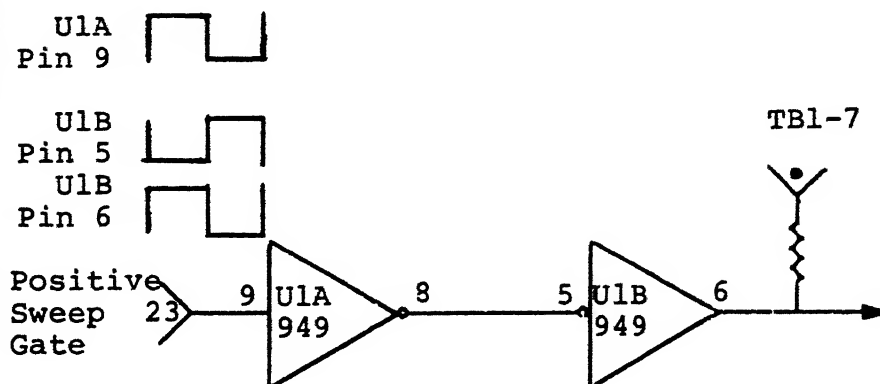

Figure 1 - DUAL INVERTER, U1.
1. The positive sweep gate, from the Sweep Generator Card, is applied to the Range Marks Generator Card to control the generation of the range marks. The leading edge of the positive sweep gate represents time zero ( $T_0$ ) or the start of the sweep sawtooth. This signal is applied to the dual inverter U1 (see figure 1). The positive sweep gate is felt on U1A, pin 9, inverted at pin 8, and applies to U1B, pin 5, where